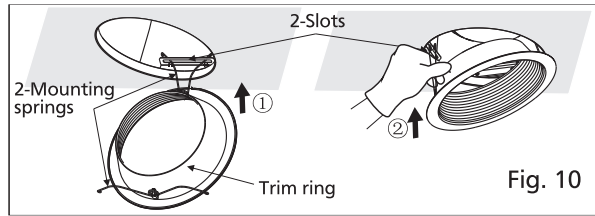

Fig. 10
14. Insert the mounting springs into the slot as shown in the figure and attach the trim ring to the fan body. (Fig. 10)